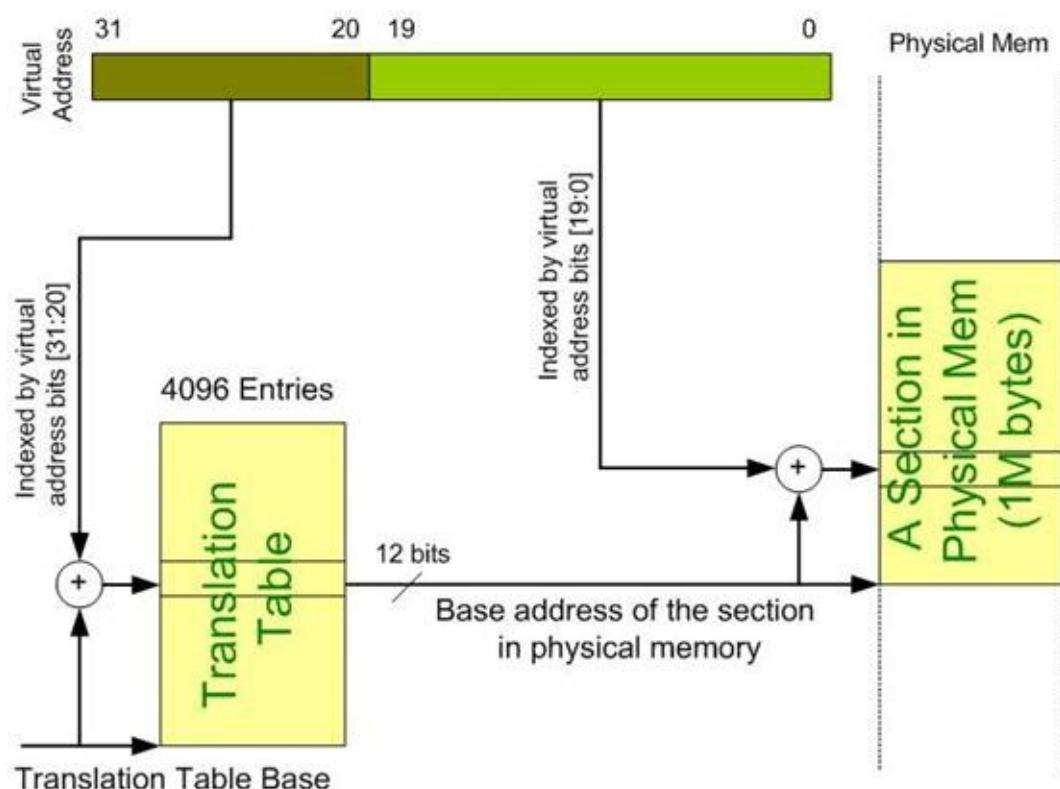

Figure 15-6: One Level Virtual-to-Physical Address Translation for 1M Page in ARM
- The lower 20 bits of the virtual address are used for the lower 20 bits of the physical address (A19-A0). See Figure 15-6. In other words, only the lower 20 bits of the virtual address match the lower 20 bits of the physical block location (A19-A0) in RAM or ROM where data is located, and the upper 12 bits of the virtual address must go through only one level of translation tables to get the actual physical address of the beginning memory section where the data is held.
As seen in Figure 15-6, the 12 bits of virtual address pointing to translation table, can have 4,096 ( $2^{12}$ ) possible combinations. Each possible value can access a 1M bytes of physical memory. Therefore, we have  $2^{12} \times 2^{20} = 4$  gigabytes of virtual memory for the ARM. That is why we do not need two level of table walking when we use 1 MB pages. With a TLB of 64 entries, the TLB inside the CPU can have 64 (out of the 4096) 1 MB pages of the most recently used sections, which allows the CPU to have instant access to 64M bytes ( $64 \times 1\text{M} = 64\text{M}$ ) of code and data at any time without going through the time-consuming process of converting the virtual address to a physical address (1-level table-walking). Again, it must be emphasized that the virtual memory and its protection mechanism is not available in all ARM products such as ARM Cortex-M series.